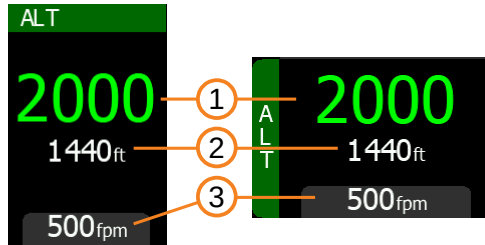

Figure 5: Altitude hold (ALT) example.
ALT mode has an additional parameter vertical speed (VS) which defines the maximum vertical speed which the system will use to maintain or climb/descent to target altitude level. Default VS value is 500 ft/min. Long press on the LVL button opens a window, where the target vertical speed can be adjusted. Figure 5 illustrates the information of the altitude hold mode (ALT).
- ① Target altitude.
- ② Current altitude.
- ③ Current target vertical speed to be used during climb or descent.